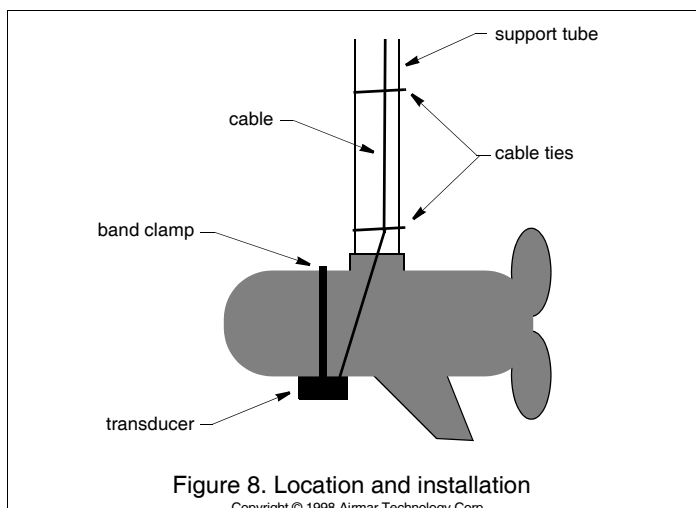

Figure 8. Location and installation
Locate the transducer under the motor case (see Figure 8).
- Route the cable around the side of the motor case and along the support tube (see Figure 8).